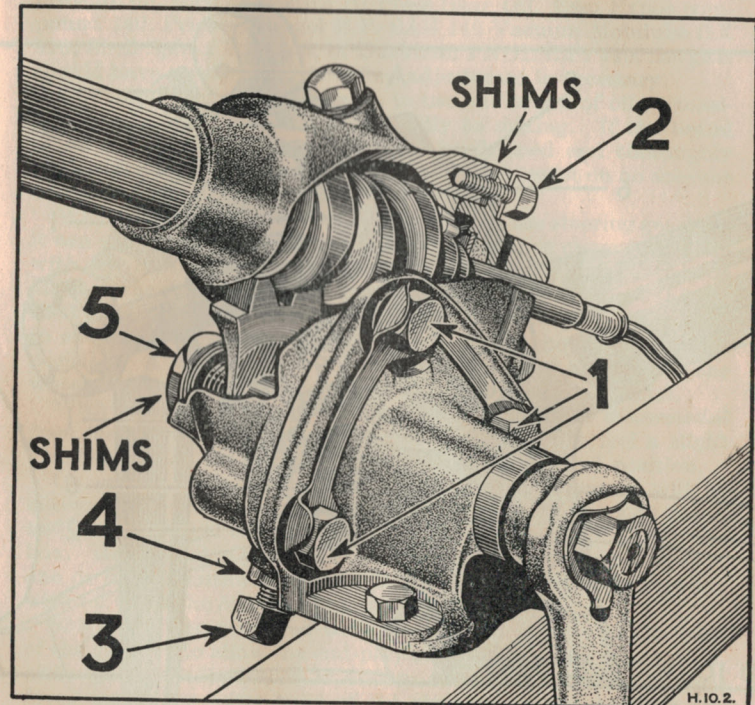

FIG. 67. THE TYPE OF HOURGLASS STEERING FITTED TO THE 1936 LICHFIELD AND SHERBORNE MODELS
If it is desired entirely to dismantle the steering, or to remove the steering wheel for any purpose, the direction indicator assembly tube first must be withdrawn up the steering column, after releasing the steering box bottom cover pinch-bolt, disconnecting the indicator and horn wires, and arranging to catch the oil that will flow from the cover of the steering box when the indicator assembly tube is withdrawn. For the adjustment of the end play in the column a series of shims are located between the bottom cover and the bottom face of the steering box. Bend back the tabs on the lock washers that secure the bottom cover setscrews (2) (Fig. 67), remove the latter and take out the thinnest shim. Replace the bottom cover and setscrews and ascertain if the end play has been eliminated. Care is necessary to see that when the bottom cover is securely re-bolted the thrust bearings are still quite free to rotate. The steering column should be rotated while the screws are being tightened up as this allows the taper